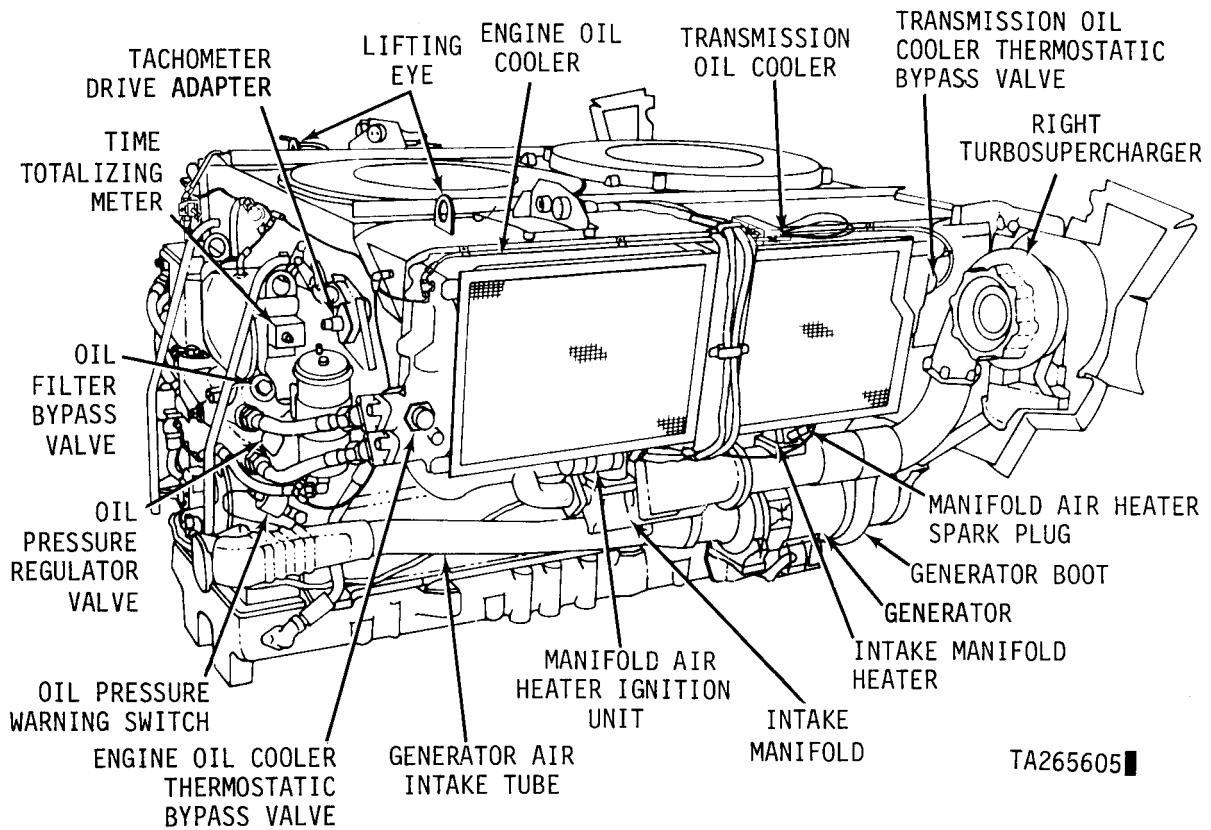

Figure 1-5. AVDS-1790-2D engine assembly - right front view
b. The Model AVDS-1790-2D engine is equipped with a 28 volt, 300 ampere, air cooled de generator (fig. 1-5).
d. The Models AVDS-1790-2D, AVDS-1790-2DR and AVDS-1790-2DA engines are equipped with a 28 volt, 300 ampere air-cooled direct current generator (figs. 1-5, 1-7.1, and 1-7.8). A blower motor mounted on the generator draws cooling air from the crew compartment through the air intake tube which extends along the crankcase below the intake manifold on the right side of the engine. The generator air exhaust tube elbow is connected to the rear of the engine shroud. Generator outlet air is exhausted through the rear cooling fan vane.